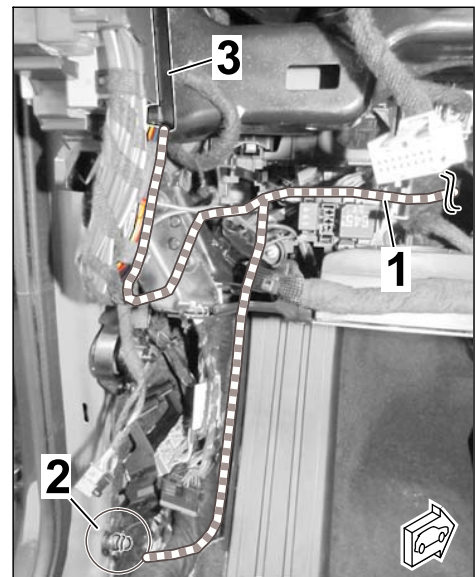

Figure 24
- 2.4.7 Route branch for power supply/ground (line BN; 1.0² with cable ring eyelet and line RD/YE; 1.0²) from wire harness for engine noise control unit/pulse sender) to the passenger compartment as follows (⇒ *Figure 24*):